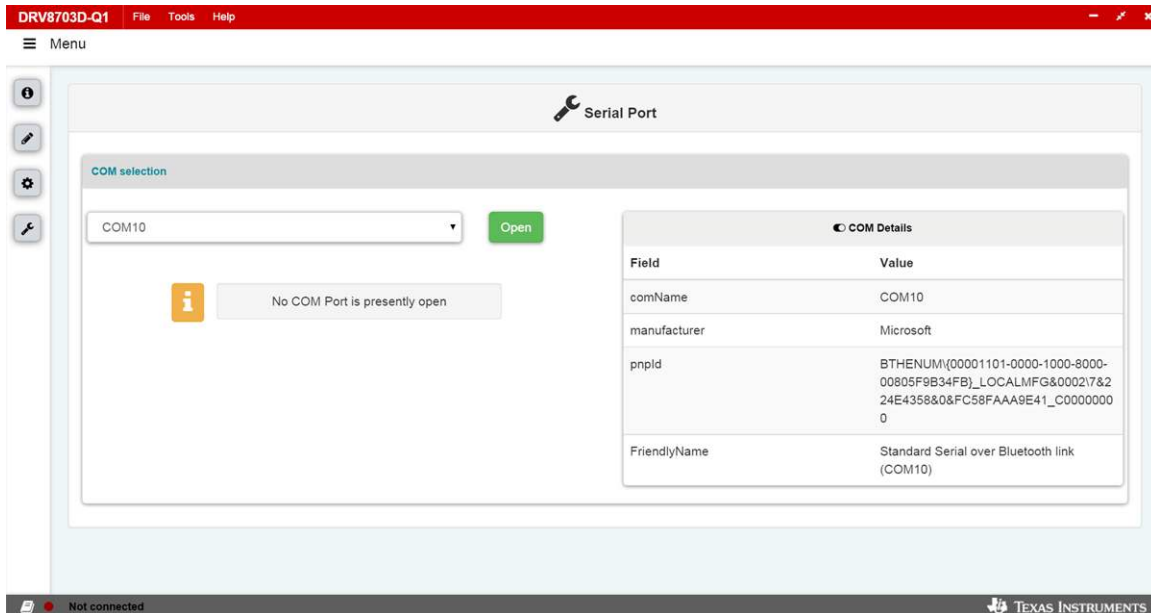

Figure 5. DRV8703D-Q1-EVM GUI (List COM ports)
- Step 5. The GUI will redirect to the *Serial Port* page for a manual connection of COM port out of the available for connection as shown in Figure 5. If nothing is physically connected to the PC, the COM drop-down list displays -- No Ports --.